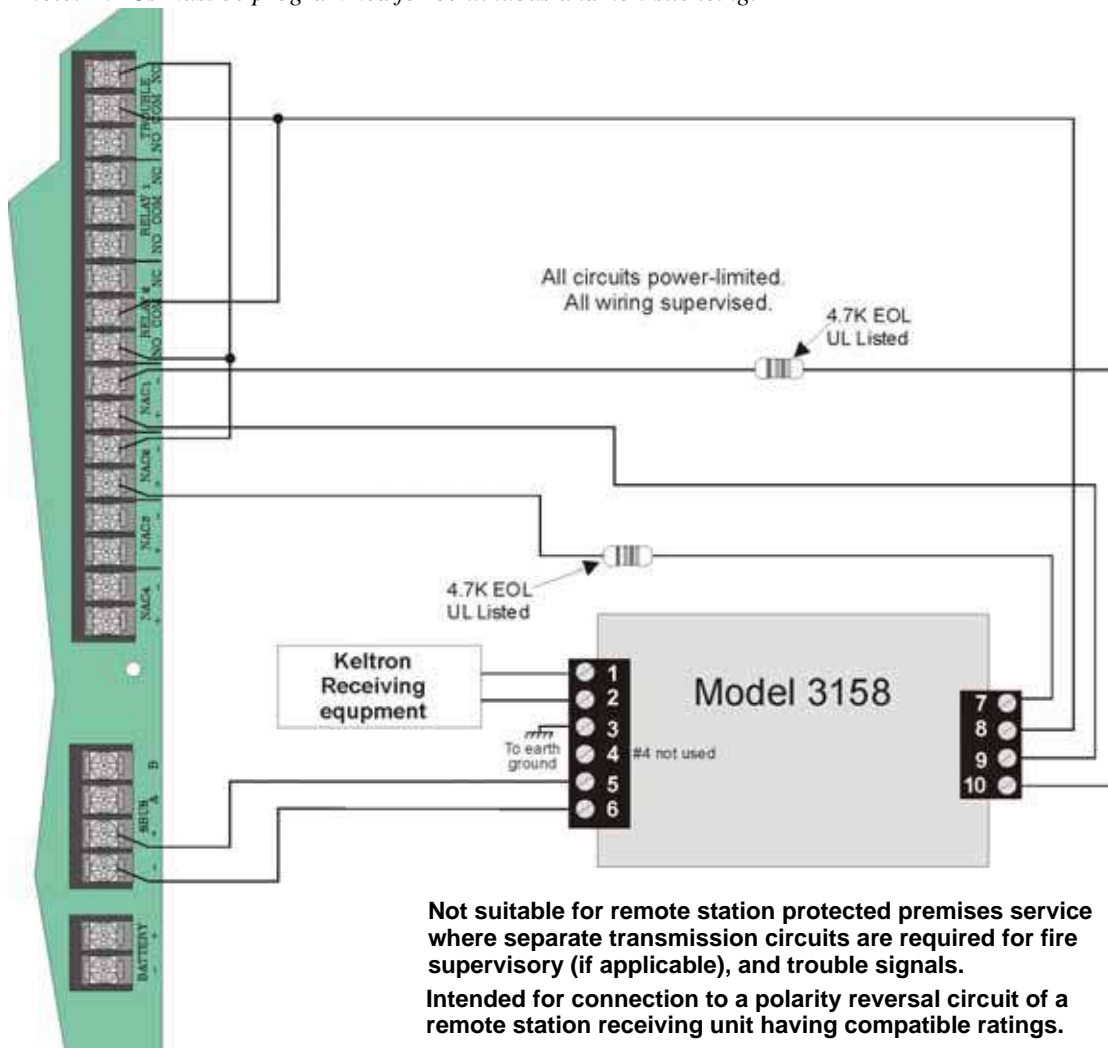

Figure 4-37 Keltron 3158 Connection to Control Panel
1. Wire the 3158 to the control panel as shown in the connection list and Figure 4-37.